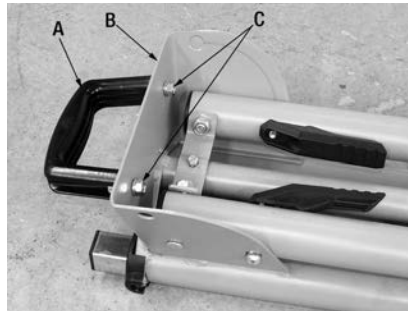

FIGURE 1
- 1) Install the transport handle (A) Fig.1 to the stand frame (B) using washers, spring washers and hex. nuts (C).